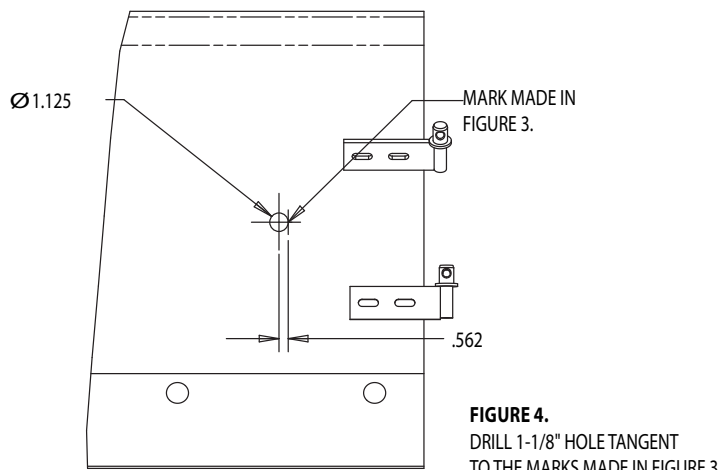

FIGURE 4.
4. After the pin location has been marked remove the Pro-Wing. Make a mark 9/16" from the pin location (marked in step 3) towards the inside of the plow such that the edge of a 1-1/8" hole will be on the original mark made in step 3 as shown in figure 4. Drill or torch cut a 1-1/8" hole on the new mark.